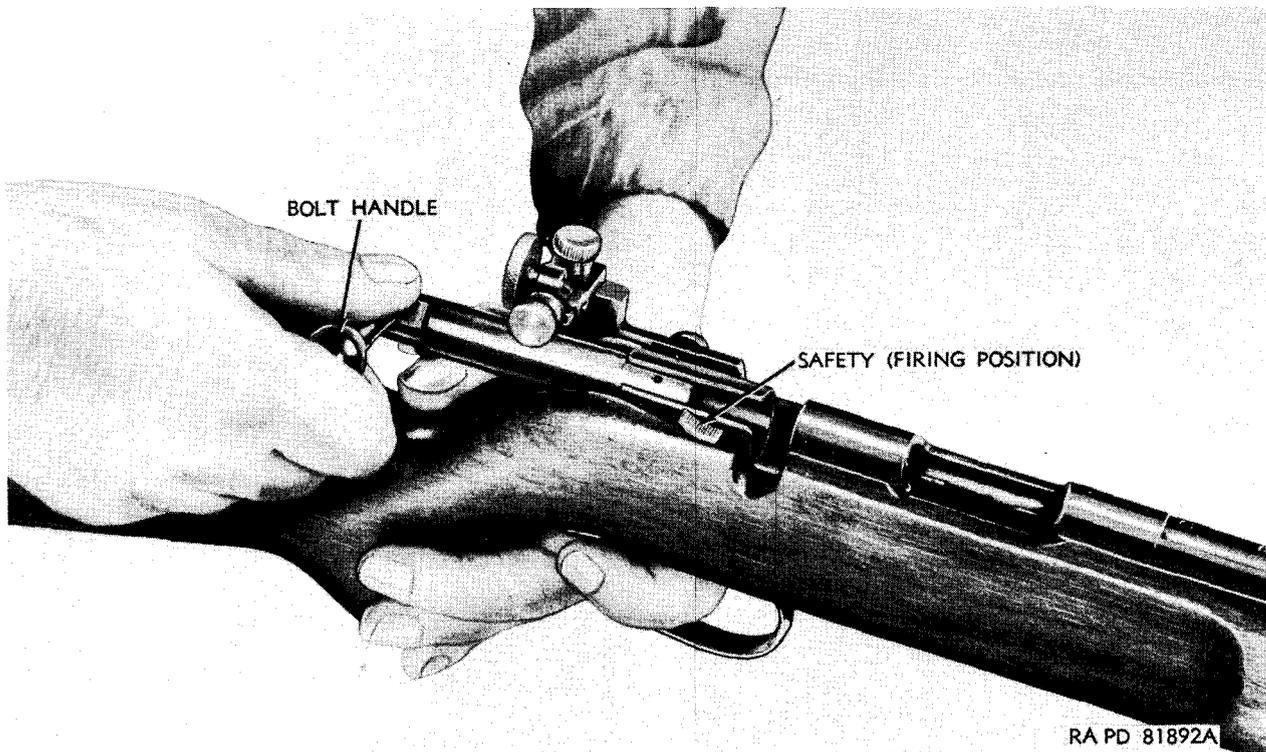

Figure 30. Removing or installing bolt group (Remington rifle M513T).
a. *Remove Bolt Group* (fig. 30). With the safety forward ("firing" position), raise the bolt handle and draw back as far as it will go. Squeeze the trigger and pull the bolt back and out of the receiver.
e. Install Bolt Group (fig. 30). Slide the bolt into the receiver as far as it will go. Move safety forward (firing position), depress trigger, and, at the same time, push bolt forward until bolt handle is opposite slot in receiver. Move safety to fire position, then release trigger and slide bolt to its extreme forward position. Push the bolt handle down.